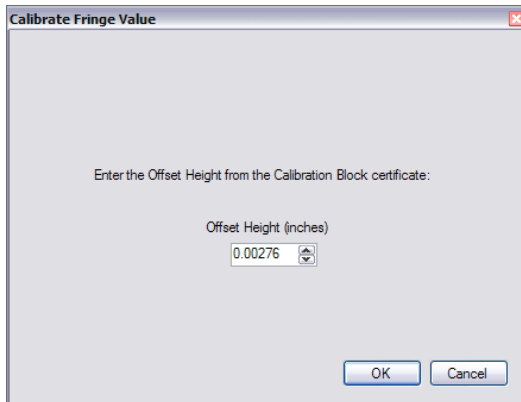

Figure 3.8 Offset Value Dialog
5. Enter the cal block Offset Height value in the next window and click **OK** (**Figure 3.8**). This value can be found on the Calibration Certificate provided with each block (**Figure 3.9** or **Figure 3.10** depending on what independent lab was used to calibrate the block).